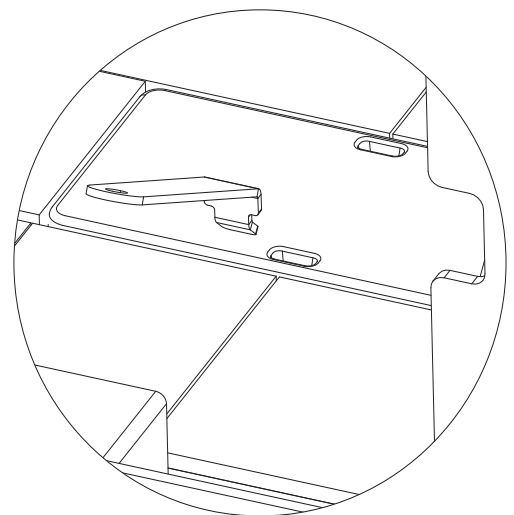

Figure 17.2
2. Remove cast iron cap from inside the firebox using tools supplied. Clean ash through the ash removal system channel into the drawer below (**Figure 17.2**).